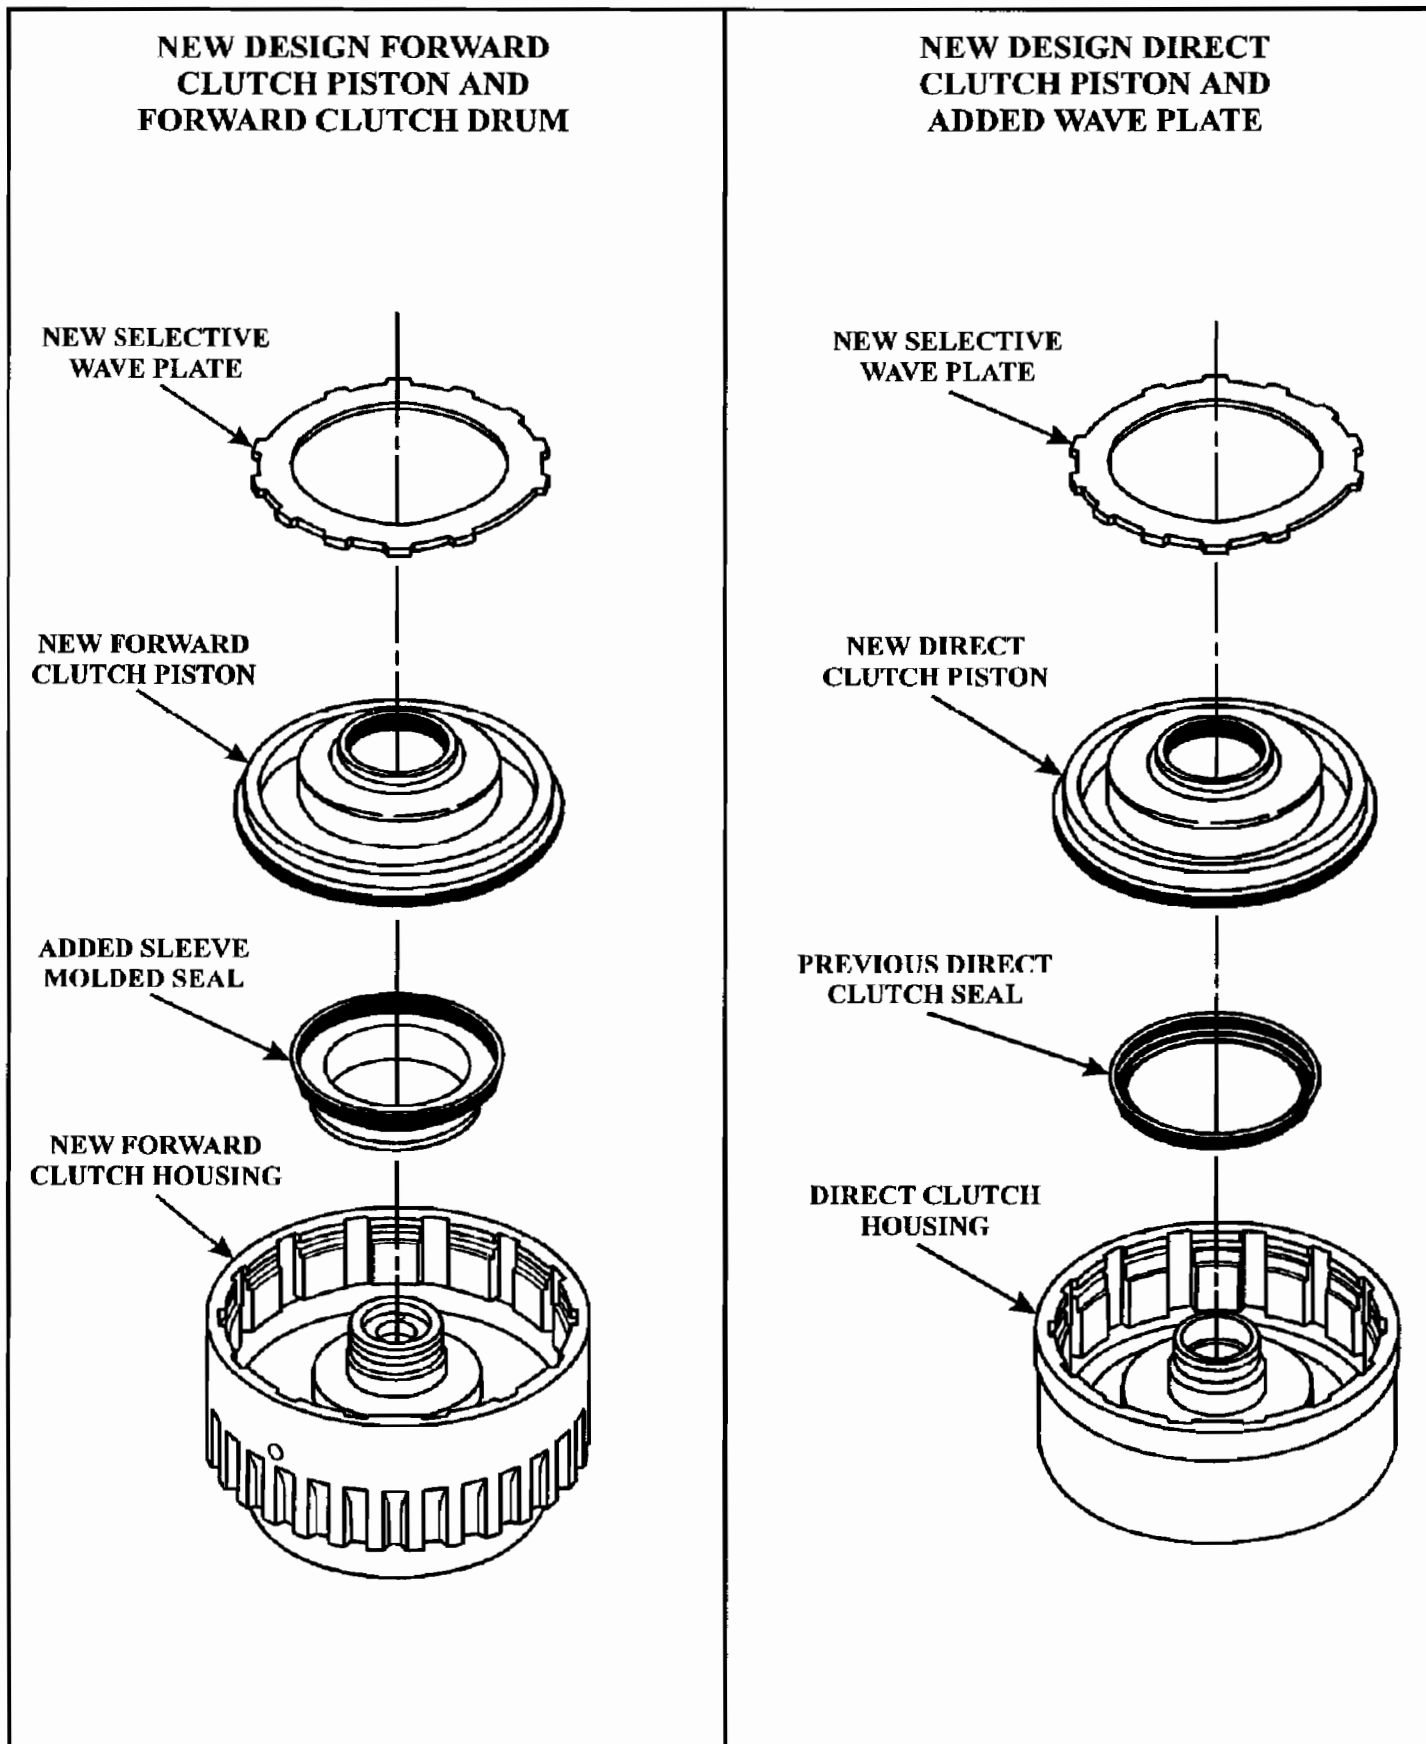

Figure 1
- (1) FORWARD CLUTCH HOUSING - Has previous intermediate seal groove and intermediate lip seal eliminated, and is now machined to accept a new steel sleeve with a molded seal that replaces the previous lip seal located in the housing, as shown in Figure 1.
- (2) FORWARD CLUTCH PISTON - New design piston is stamped steel with molded seals to replace the previous cast aluminum piston, as shown in Figure 1.
- (3) FORWARD CLUTCH INTERMEDIATE LIP SEAL - Has been eliminated and replaced with a steel sleeve with the molded seal, as shown in Figure 1. (Currently not serviced separately)
- (4) DIRECT CLUTCH PISTON - New design piston is stamped steel with molded seals to replace the previous design cast aluminum piston, as shown in Figure 1.
- (5) WAVE PLATES - Were used to replace the previous design bellville plates in both the forward and the direct clutch housings. There are 2 different thickness selective wave plates.
The forward clutch housing will also retro-fit back on all previous models, but *must* be used as a complete package, including the stamped steel molded rubber seal piston and the added sleeve with the molded seal (See Figure 1).
- (1) **BOTTOM PAN** - The new design oil pan has a contoured shape, is 7mm (.275") deeper than the previous model oil pan, and has an oil level indicator stop incorporated into the oil pan stamping (See Figure 1).